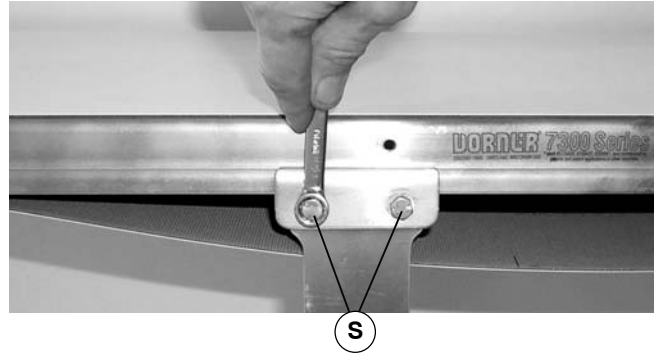

Figure 27
3. Loosen two clamp plate screws (S of Figure 27) on side of conveyor opposite drive motor.
3. Tighten two clamp plate screws (S of Figure 27)